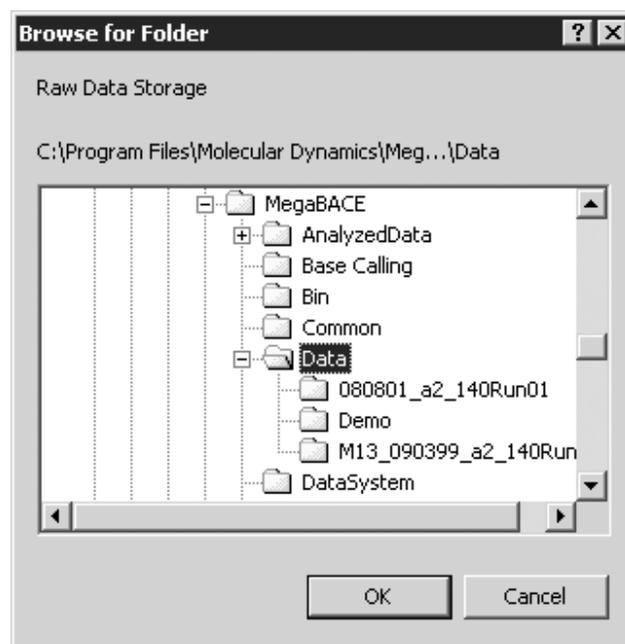

Figure 4-10. The Browse for Folder window for changing the storage location for the raw sample data files.
3. On the **Options** menu, click **Raw Data Storage**. The Browse for Folder window appears (figure 4-10).